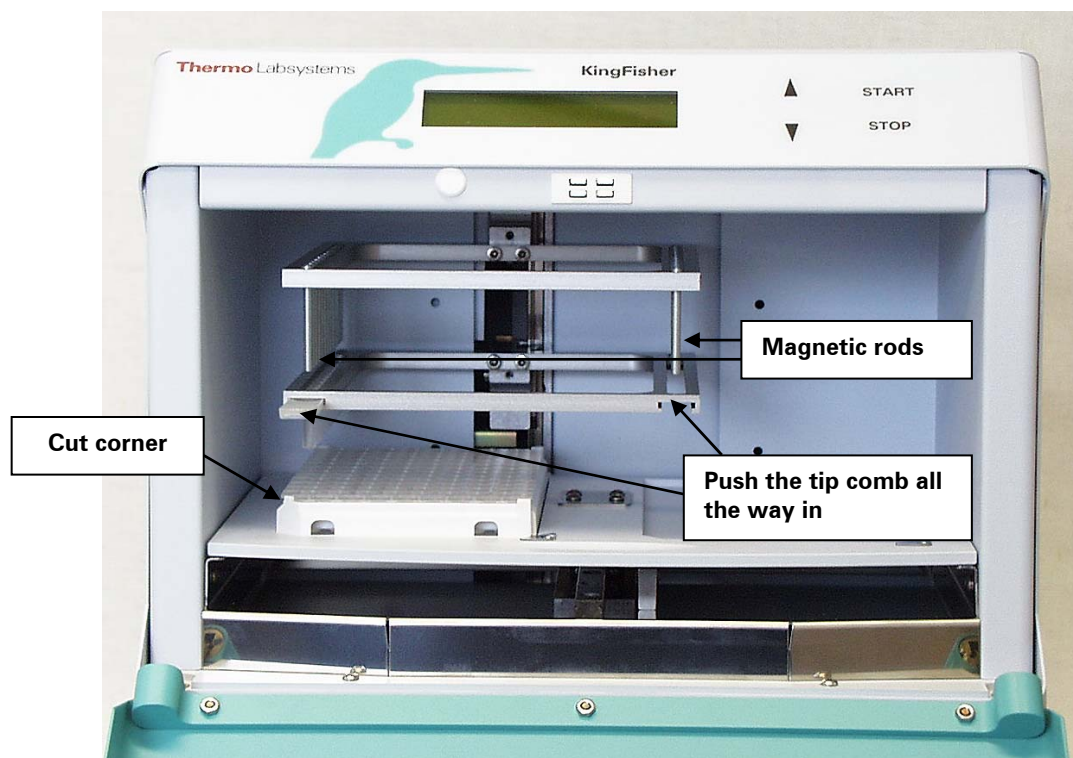
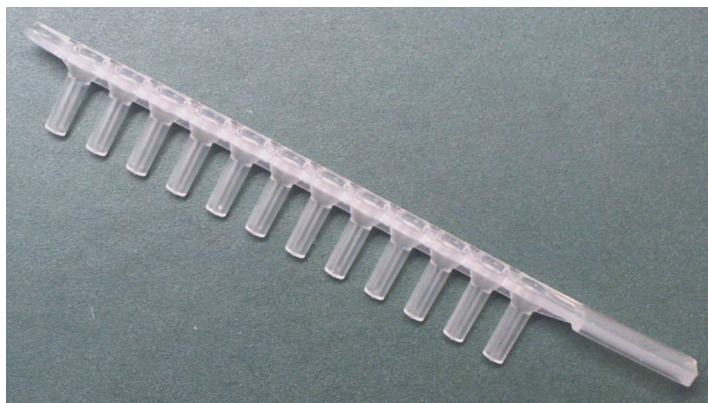

Fig. 6.3 Positioning of the plate(s) and insertion of the tip comb(s)
Fig. 6.4 Tip comb specially designed for the KingFisher
- The tip comb(s) always has (have) to be in its (their) slot(s) and fully inserted (*Fig. 6.3*). The instrument also functions with either one microplate or one to twelve microstrips depending on the amount of samples. At least one tip comb (*Fig. 6.4*) always has to be inserted into either of the narrow slots meant for the tip comb.